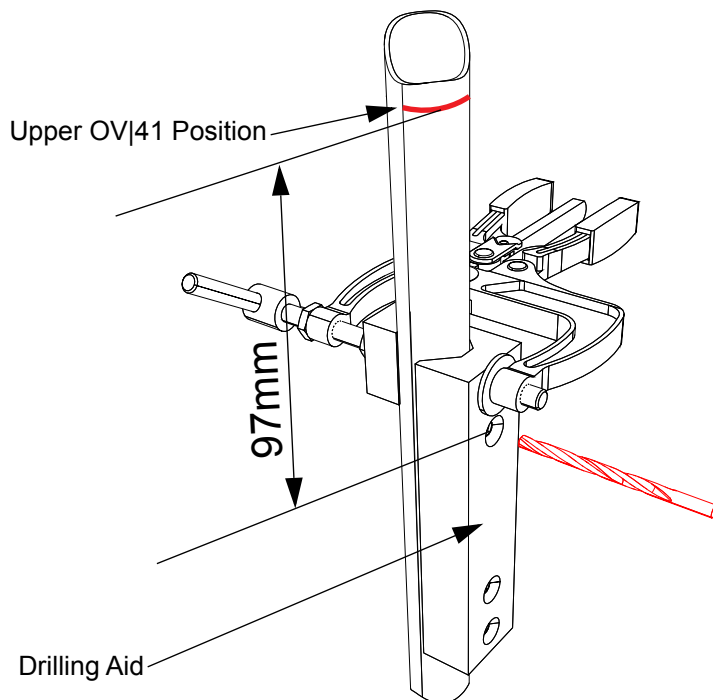

Figure 6-27 Marking Upper OV|41 Position
STEP 3: Drill the 5 mm holes for the studs and the cut out for the cable into the pole (see **Figure 6-27** and **Figure 6-28**).